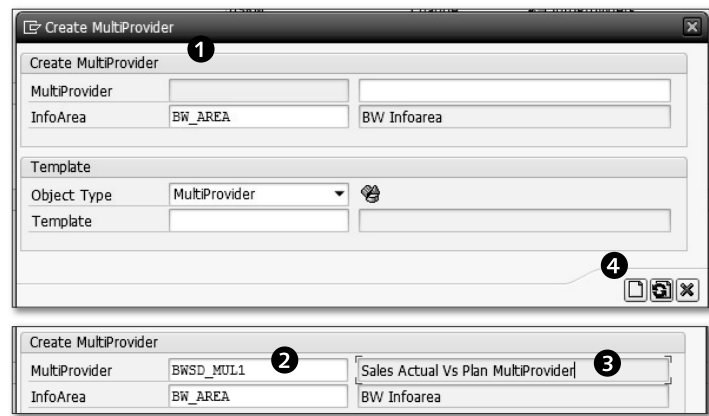

Figure 6.4 Creating a MultiProvider: Adding a Name and Description
The CREATE MULTIPROVIDER pop-up box appears, as shown in ❶ of Figure 6.4. You need to provide the unique technical name and description of the MultiProvider. Enter the technical name “BWSD_MUL1” ❷, and enter the description “Sales Actuals Vs Plan MultiProvider” ❸. Click on the CREATE icon ❹.